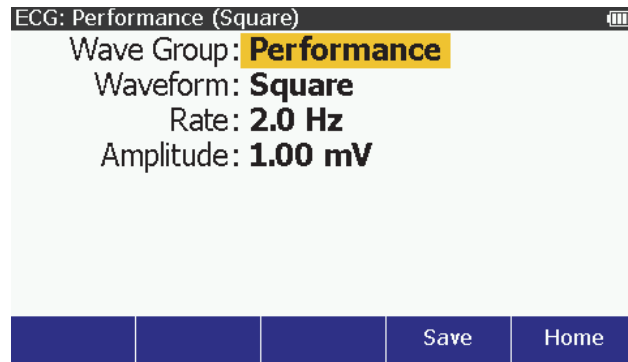

Figure 8. Performance Wave Screen
5. Push  to show the ECG: Performance screen in Figure 8 on the display.